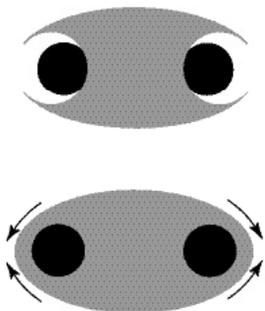
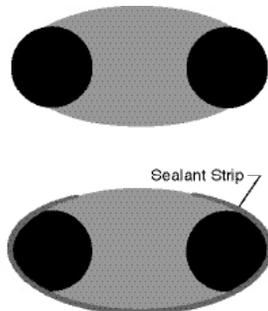

Fig. 30
Fig. 31
2. If cable diameters allow, fold edges of sealant over cables to form seal. (Fig 30) If cable diameters prevent you from folding the sealant edges together, wrap 1 strip of sealant (provided in kit) starting 1 inch beyond 1 of the cables and wrap around the sealant core and at least 1 inch past the second cable. (Fig 31)